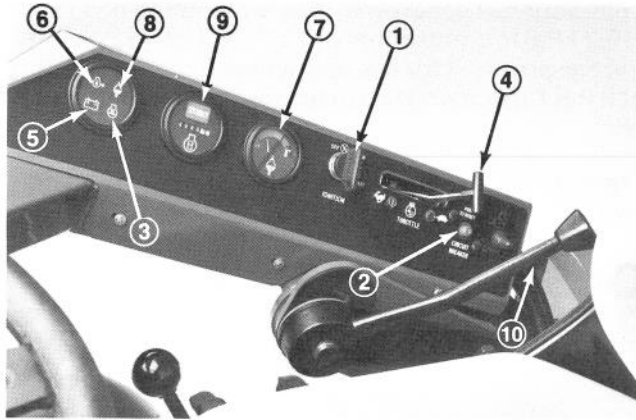

Figure 17
## IGNITION KEY SWITCH (Fig. 17)
## GLOW PLUG INDICATOR LIGHT (Fig. 17)
## THROTTLE CONTROL (Fig. 17)
## BATTERY CHARGING INDICATOR (Fig. 17)
## ENGINE OIL PRESSURE INDICATOR (Fig. 17)
## COOLANT TEMPERATURE GAUGE & INDICATOR (Fig. 17)
## HOUR METER (Fig. 17)
## STEERING ARM HEIGHT SELECTOR LEVER (Fig. 17)
## CIRCUIT BREAKER (Fig. 17)
5. Immediately turn ignition key to START position (Fig. 17). Release key immediately when engine starts and allow it to return to ON position. Move throttle control to SLOW position.